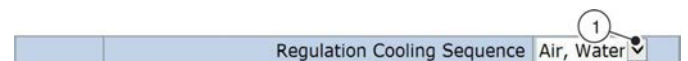

Fig. 59: Setting a cooling sequence
- Select a setting from the drop down list (Fig. 59 /1): either 'Water, Air' to close the supply air damper, or 'Air, Water' to maintain normal ventilation.